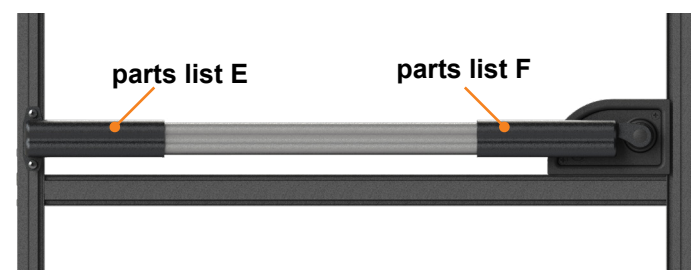

Fig.3
**NOTE:** Kit parts will be left over, depending on Mounting Options (Fig.3 and Fig.4).